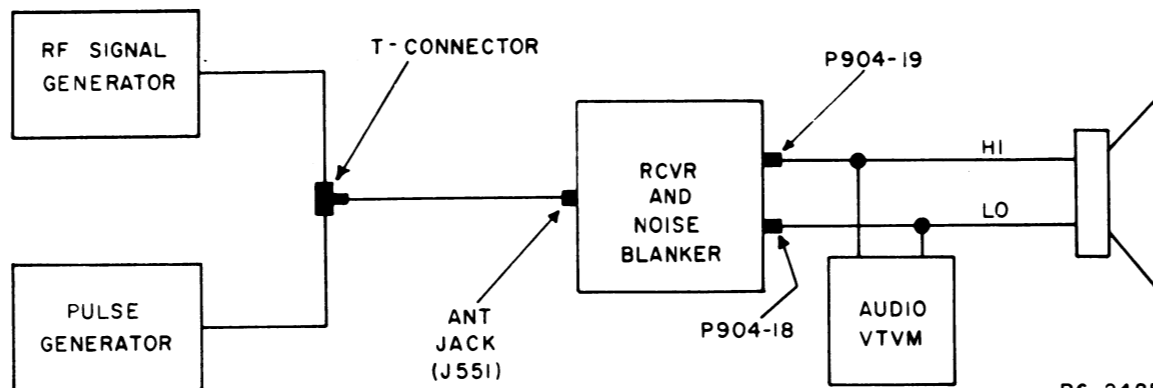

Figure 1 - Equipment Connection Diagram
1. Connect Pulse Generator and RF Signal Generator to receiver antenna jack (J551) through a T-Connector, and connect AC VTVM to receive audio output (Speaker LO, P904-18, Speaker P904-19) as shown in Figure 1.